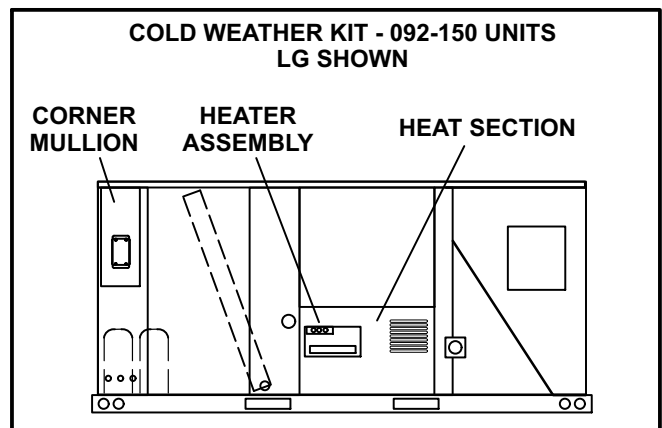

FIGURE 1
- 1- Disconnect all power to unit and open heat access panel. See figure 1.